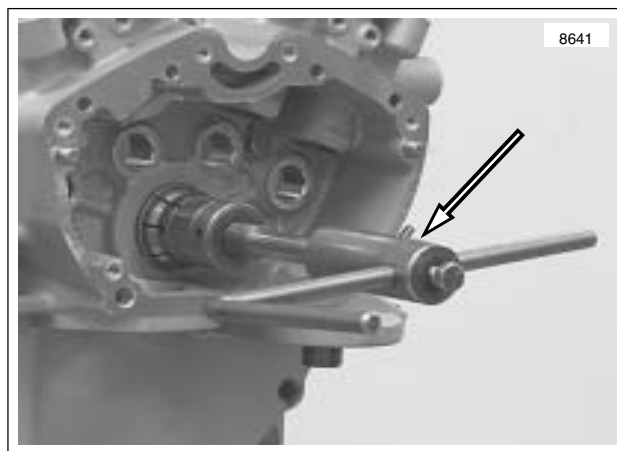

Figure 3-148. Lapping Pinion Shaft Bearing Outer Race with Crankcase Main Bearing Lapping Tool (Part No. HD-96710-40B)
2. See Figure 3-148. Obtain CRANKCASE MAIN BEARING LAPPING TOOL (Part No. HD-96710-40B). Assemble CRANKCASE MAIN BEARING LAP (Part No. HD-96718-87) to lapping handle. Assemble guide sleeve to sprocket shaft bearing bushing. Sleeves, for use with tapered bearing, are assembled to case with bearings and small spacer collar. Finger-tighten the sleeve parts.